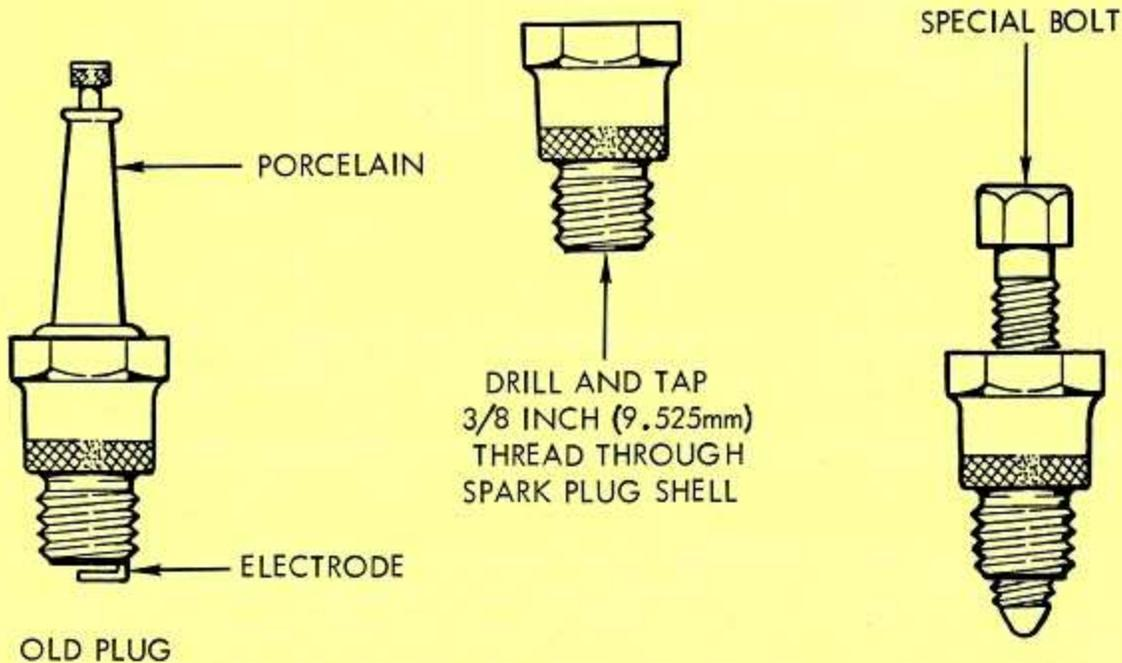

FIGURE 3
3. Remove the porcelain and the ground electrode from an old spark plug and drill and tap a 3/8-inch (9.525 mm) thread through the spark plug shell (Figure 3). Thread the special bolt into the spark plug shell. Use a grinder or file to round off the bolt end to be sure there are no sharp edges or burrs which could damage the piston. As a compression relief, it is recommended that a 1/8-inch (3.175mm) hole be drilled through the bolt. This assembly is your piston stop.